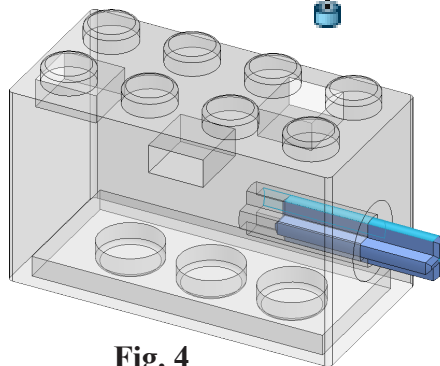

Fig. 4
Step 7. In the graphic area position cursor over **Lego Axle hole cylindrical face in Motor**, **Fig. 4**. When Axle snaps into place and cursor changes to indicate Concentric mate , click to release Axle.